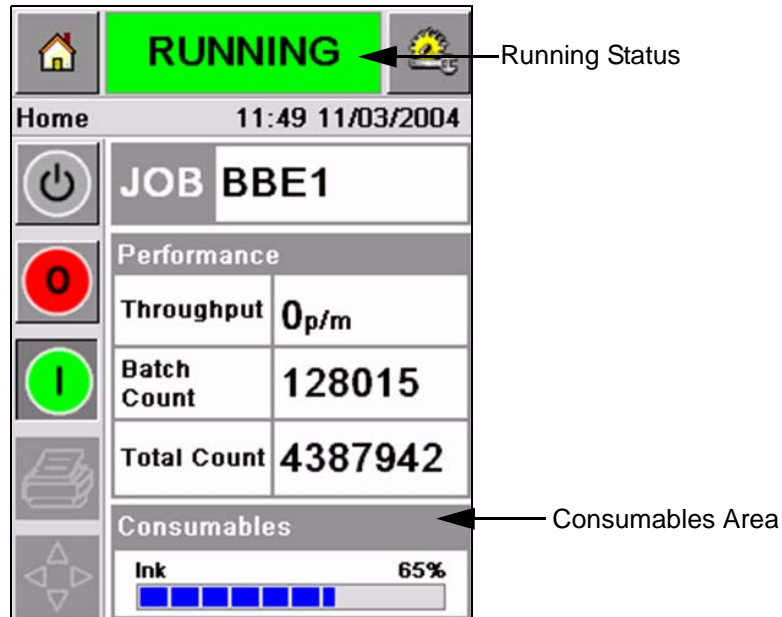
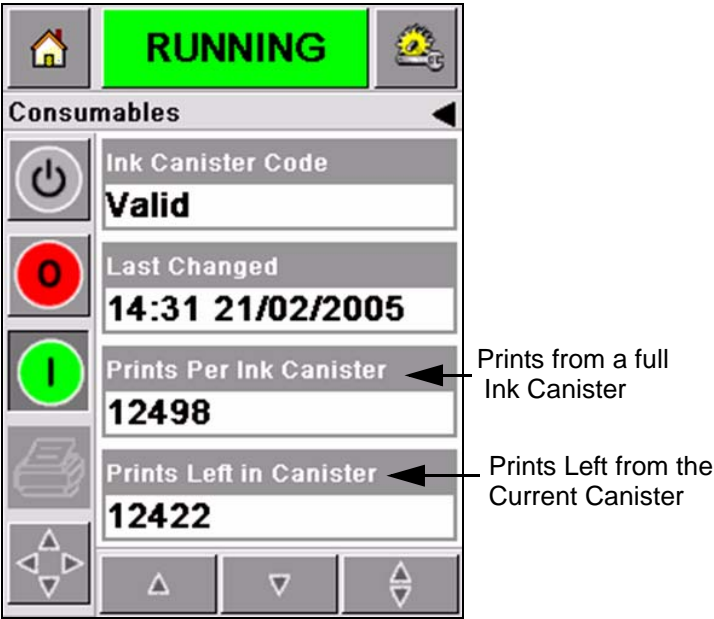

Figure 4-14: Consumables Area - Running
Figure 4-15: Number of Prints
- 1 Touch the *Consumables* area on the *Home Page* screen during the printer *Running* status (Figure 4-14 on page 4-12). The *Consumables* screen that displays the number of prints (Figure 4-15 on page 4-13) appears.